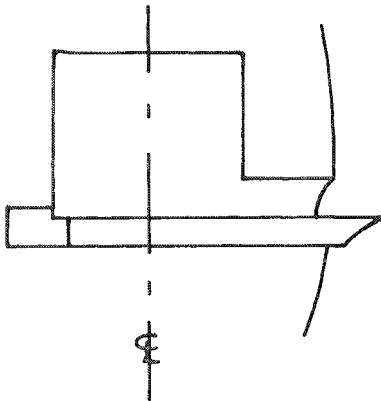

Fig. 5.3 Cutters beyond centre line.
- Cutter projection should not exceed approximately 15mm (Figs 5.3 and 5.4).